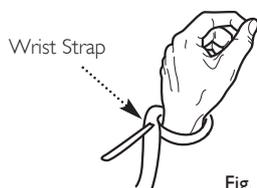

Fig. 63
7. Utilise the ESD wrist strap included in the kit (5129152) according to the guide on the packaging. Place the looped end of the strap around your wrist and the other end connect to an adequate earth point (Fig. 63).